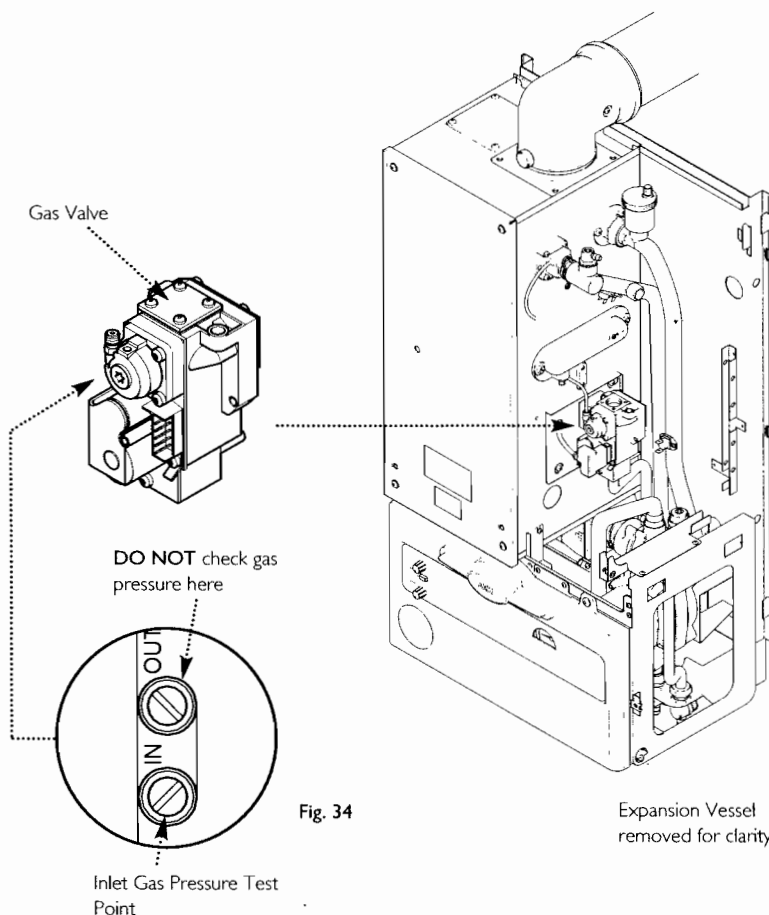

Fig. 34
12. After a period of 3 minutes and with all the system controls calling for heat, check the gas pressure at the inlet tapping of the gas valve (Fig. 34) is greater than 14mbar and the gas rate is no greater than 4.2m³/h (133 model) 3.1m³/h (100 model) 2.5m³/h (80 model).